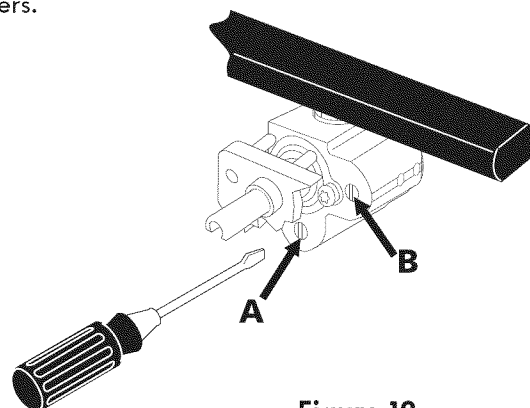

Figure 12
11.5 Adjust the "LOW" Setting of the Dual Valve (Fig. 12)